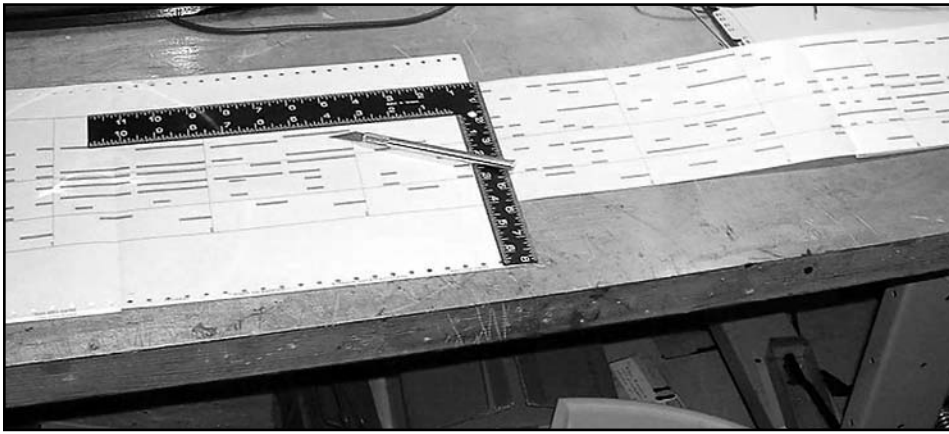

Figure 5. Trimming the roll, using a carpenter's square and an Xacto knife.
**1. Trimming**—the excess width is cut off both sides, using the printed edge lines as guides. A large work table is a big help, with some kind of posterboard laid over it to absorb the knife cuts and protect the tabletop and knife blade. By unfolding the printout stack in just the right pattern, you can arrange to cut two or three sheets at a time, but don't try more than three. **Figure 5** shows how it's done.